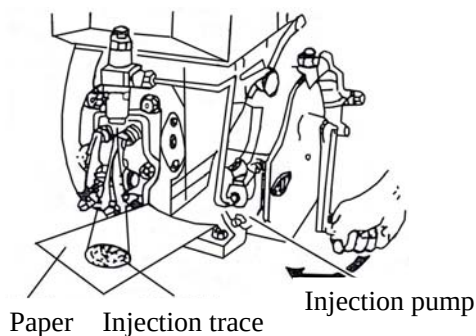

Fig.17 Checking the spraying
3.5 Check the spraying quality of injector that the injector has a Fine atomized spraying and no oil drops exist around the nozzle (See Fig. 17).